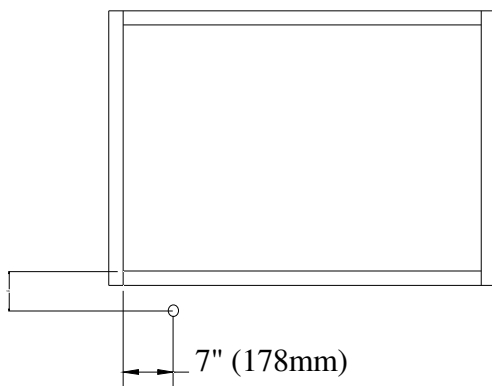

Figure 6
9. For Fully-Automatic installations, Drill a 1 1/2" hole through the wall as illustrated in Figure 6. (The dimensions shown are from the inside of the building.)